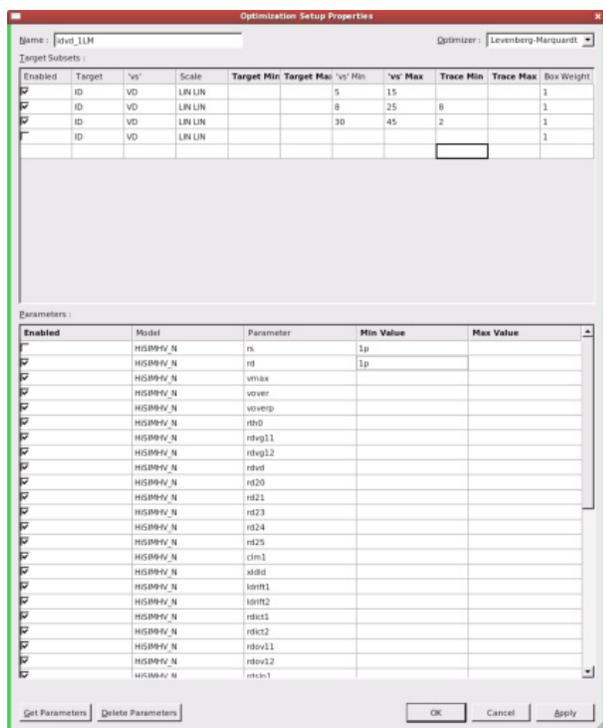

Figure-7 Utmost IV Optimization Setup Property for ids/vds.
**Optimization Setup Property: idvd (Figure-7)**